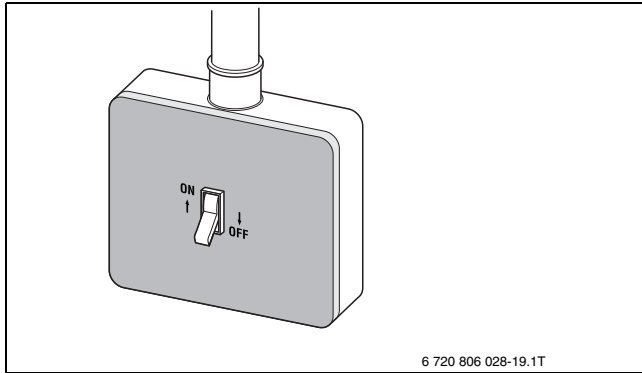

Fig. 5 ON/OFF switch (OFF position)
- ▶ Place the ON/OFF switch in the **OFF** position (→ Fig. 5). This shuts off power to the boiler and all of its components (e. g. burner, temperature controller).